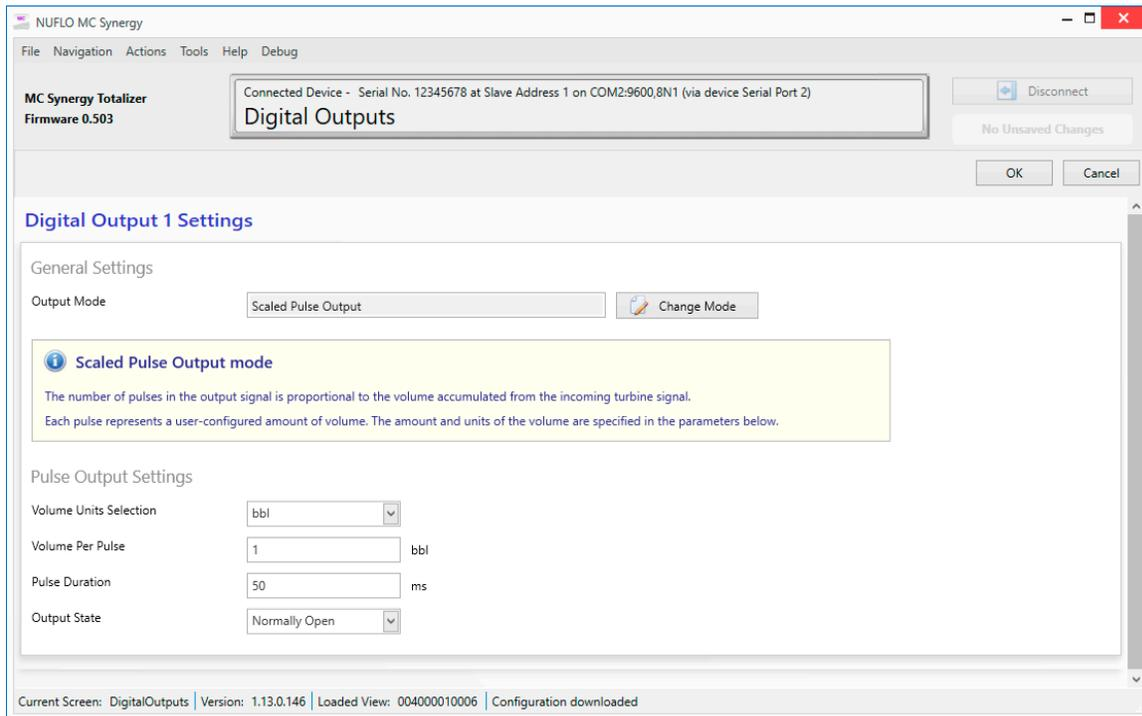

Figure 8.7—Scaled Pulse Output screen
- Scaled Pulse Output. (Figure 8.7, page 76) Each pulse represents a user-configured volume in the user-selected units.